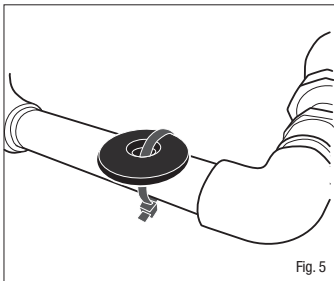

Fig. 5
- Make adjustments as necessary to ensure that tag is accessible for reading (See Fig. 5).